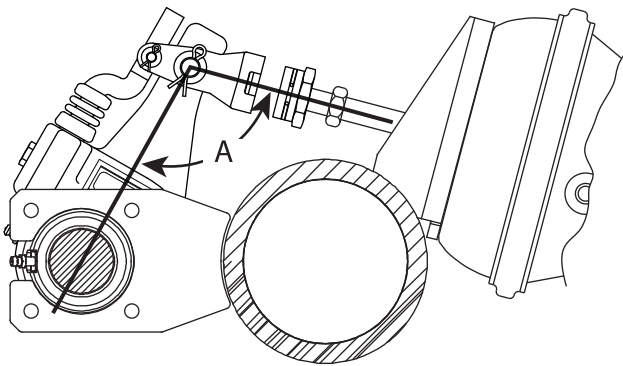

Figure 9. Proper slack installation angle
12. Check the installation angle with the Bendix setup tool. For 5.5-inch slacks, the angle should be 98 to 111 degrees. For 6-inch slacks, the angle should be 90 to 109 degrees (figure 9).